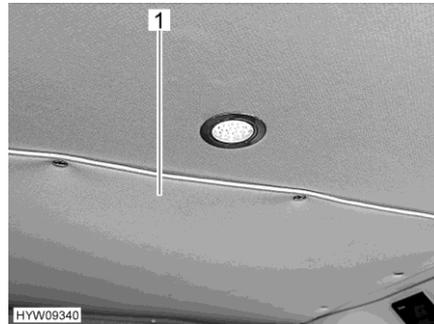
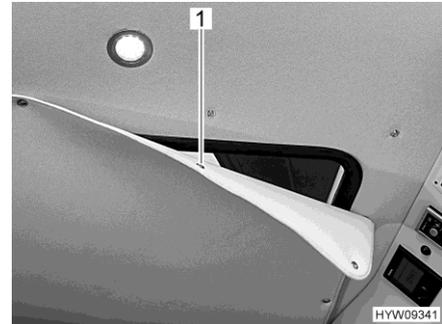

Fig. 33 Cover (closed)
Fig. 34 Cover (partially opened)
- Remove the cover (Fig. 33,1) from the roof lining in the living area. To do this, loosen the snap fasteners (Fig. 34,1) all around.
- Close the passage to the sleeping roof with the cover (Fig. 33,1).